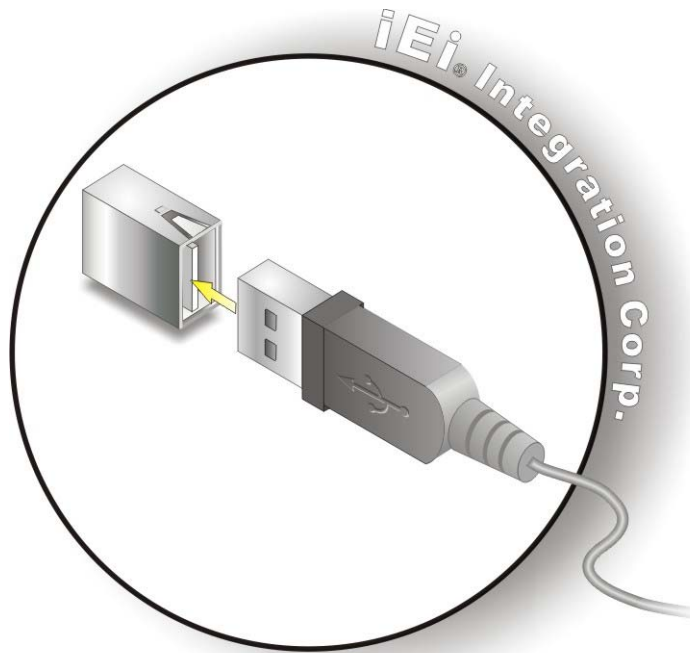

Figure 4-17: USB Device Connection
Step 2: Align the connectors. Align the USB device connector with one of the connectors on the PCIE-Q670 Series. See **Figure 4-17**.